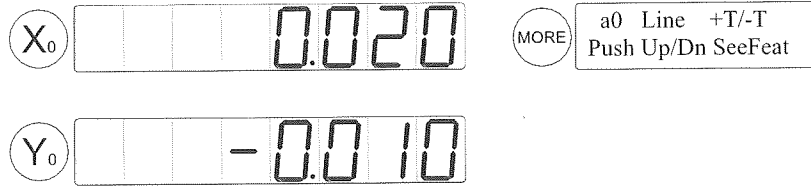

Figure 2-23 Line Message
- e. Press  key to see another message. (Figure 2-23).